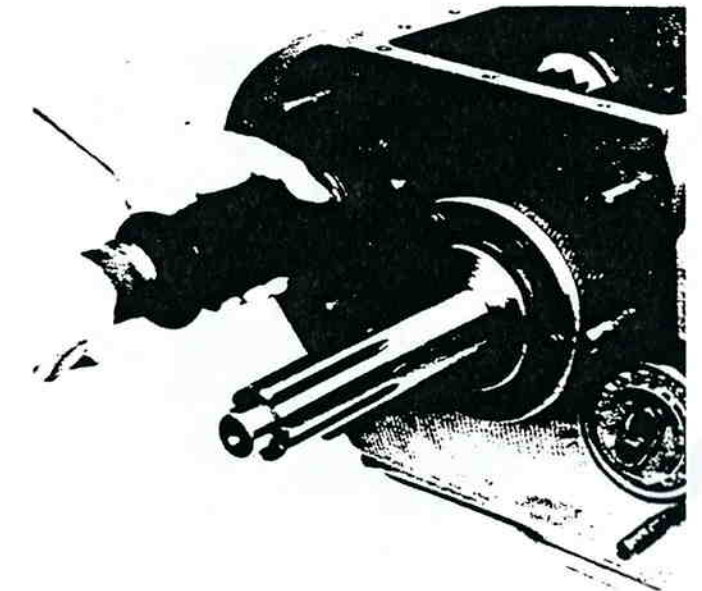

Figure 13-144. Front Bearing Installation.
3. With timing teeth still in mesh, install countershaft front bearing. Center countershaft in case bore using a small screwdriver inserted through bearing I.D. and in bell center or either threaded hole in end of shaft (figure 13-144).